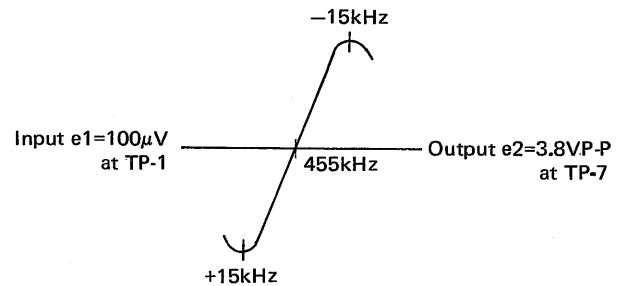

FIGURE 4. IF DISCRIMINATOR CURVE
Step 3: Adjust T10 and T11 for maximum output and adjust T12 and T13 so that the 455 kHz marker is in the center of the discriminator curve and for best linearity as shown in Figure 4.